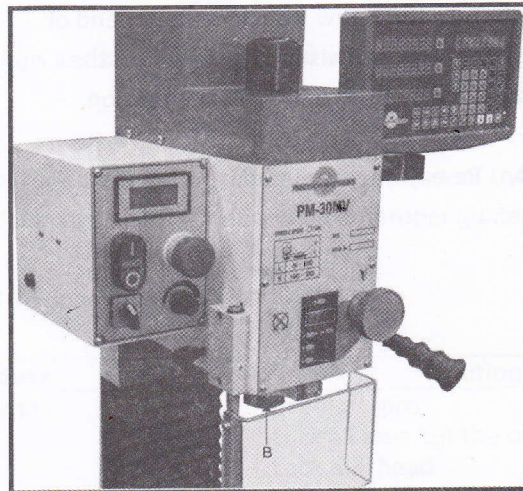
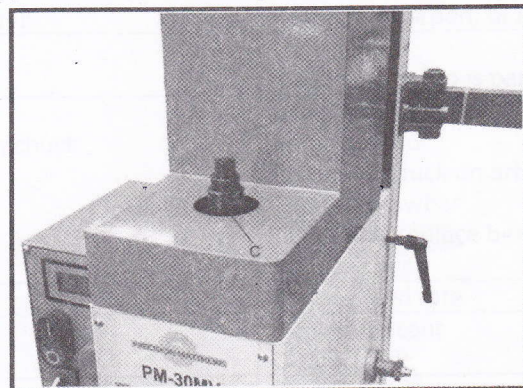

Fig.15
Fig.16
3. Hold the flat of spindle (B, Fig. 15) to keep it from moving while loosening the drawbar (C, Fig. 16) with the 22-25 spanner in toolbox.